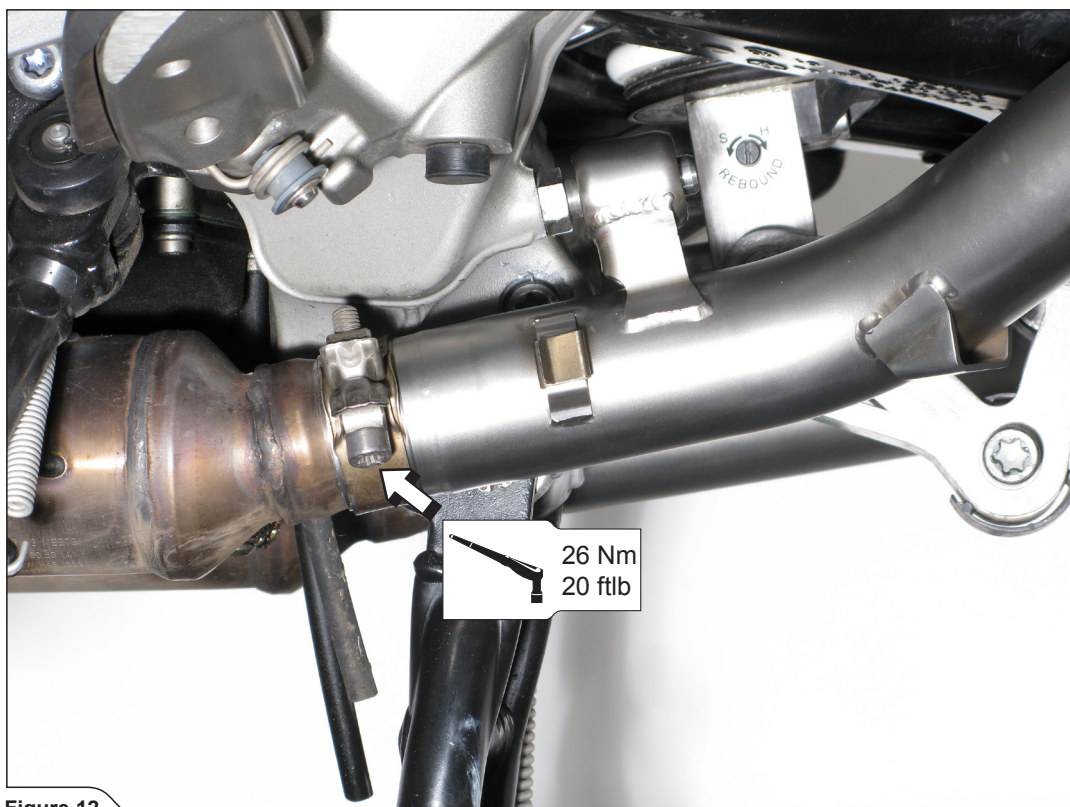

Figure 12
5. Tighten both clamps to the specified torque (Figure 12, 13).